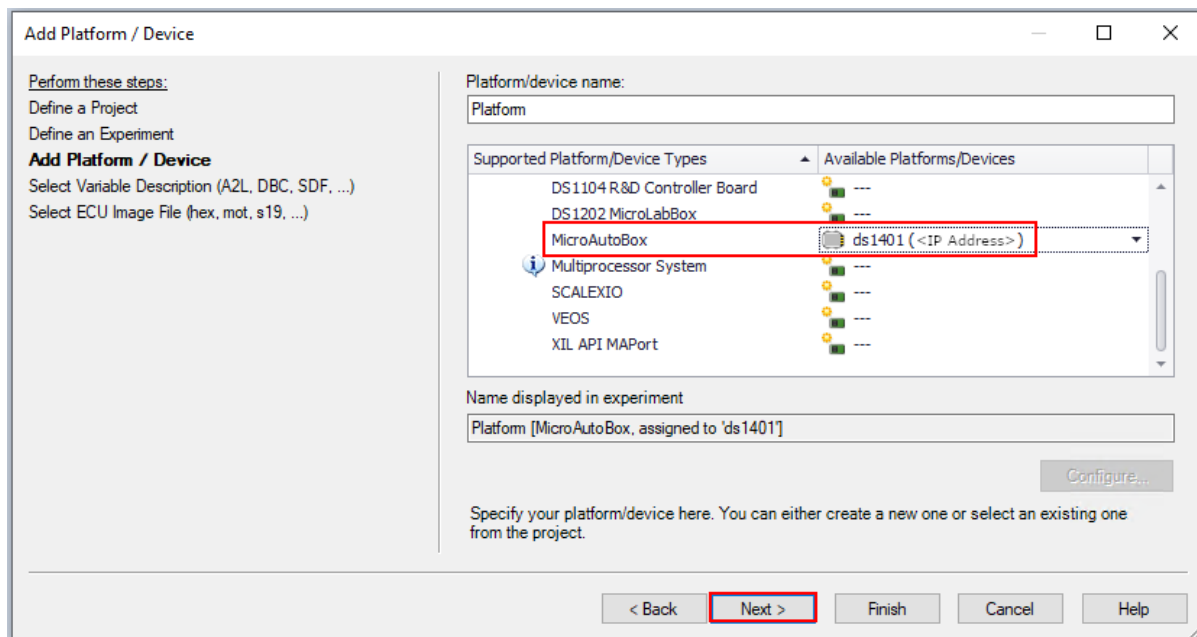

Figure 5.11: Select the MicroAutoBox platform
- 8) Select the platform to which you will deploy the generated executable (see Figure 5.11).